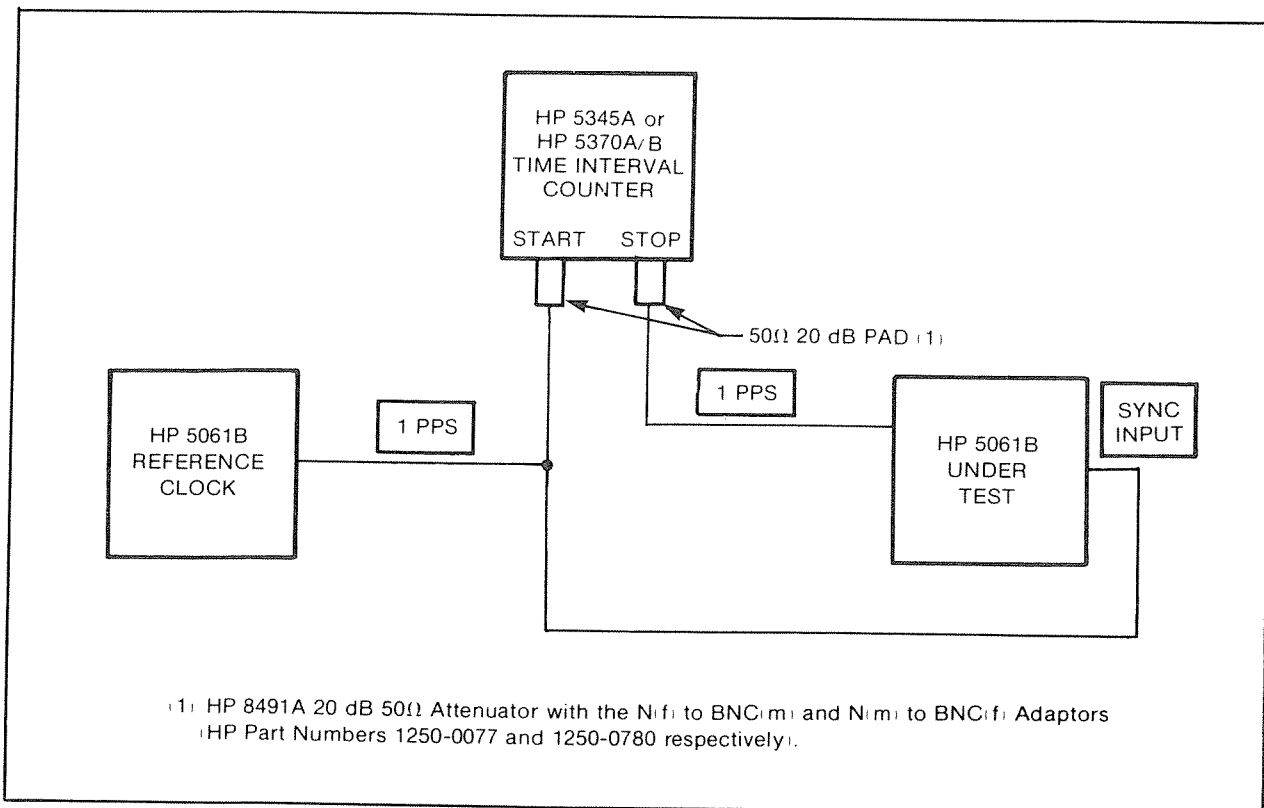

Figure 3-14. Equipment Setup for Synchronization and Delay Checks
- Connect equipment as shown in Figure 3-14.